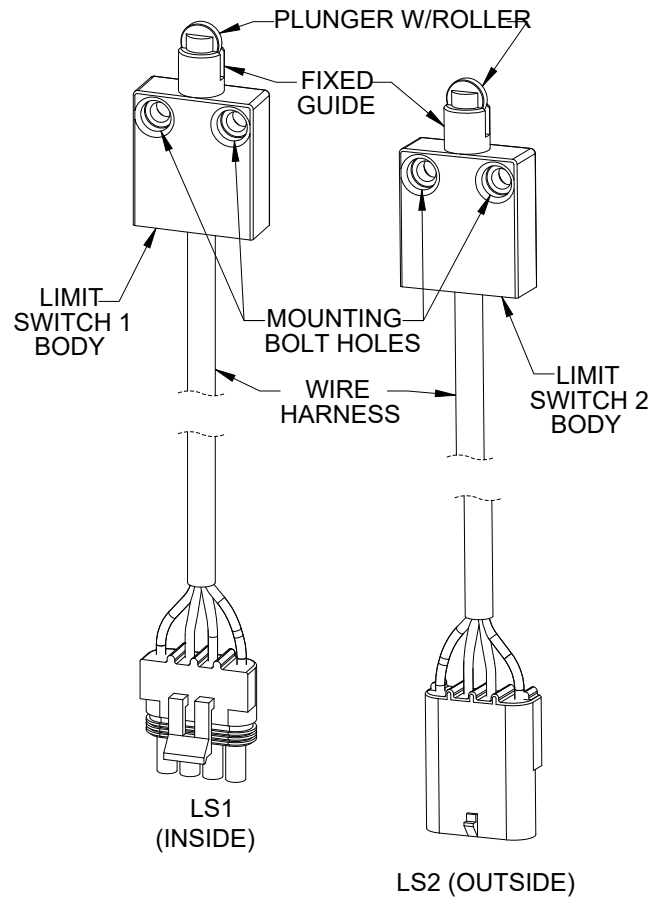

Figure 24
3. Remove LS1 and/or LS2 limit switch from carriage (see Figure 24).